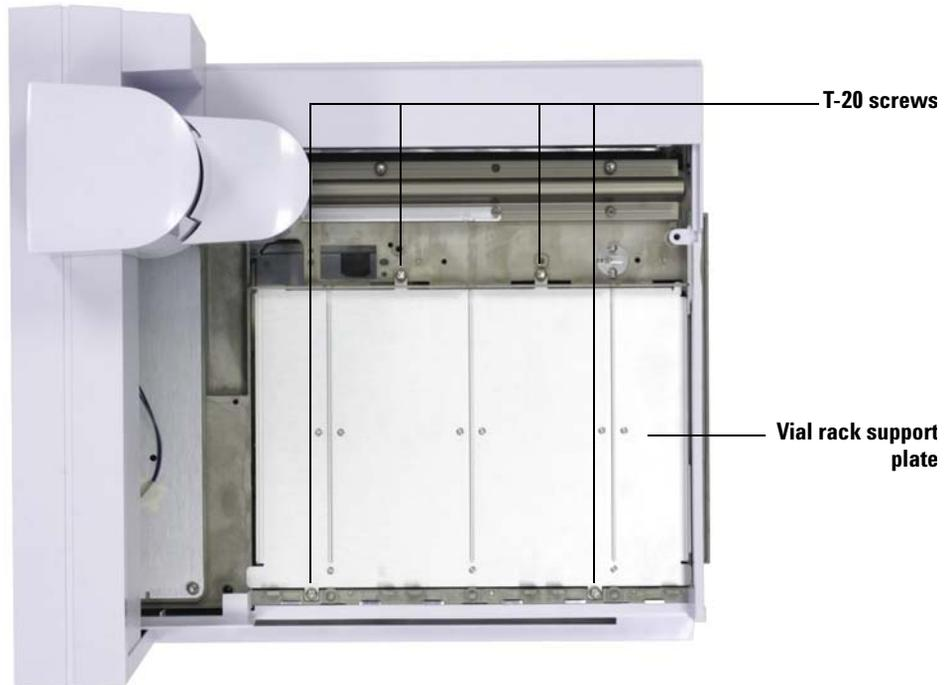

Figure 42 Removing four screws that secure the vial rack support plate to the sample tray chassis
- 23** Remove the four T-20 Torx screws securing the vial rack support plate and set them aside. They are not used from this point forward (Figure 42).